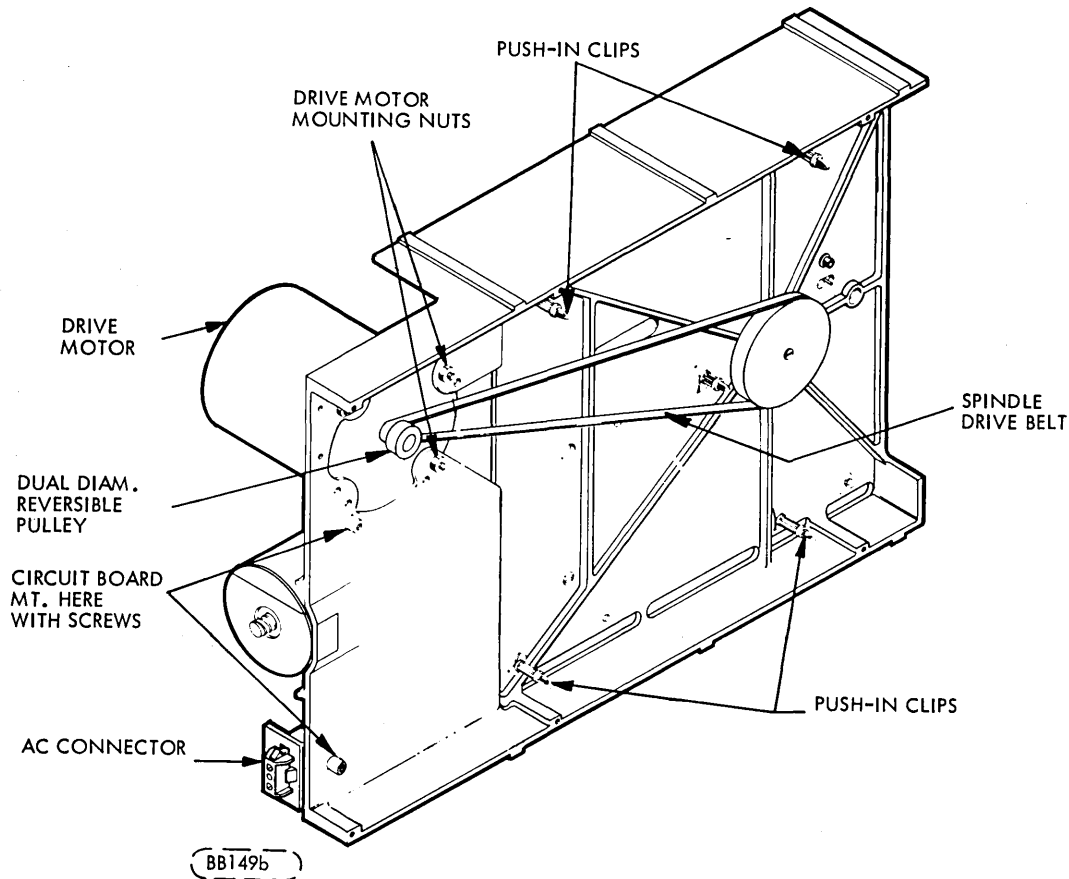

Figure 6-12. Base Casting Assembly
- c. Remove two screws from printed circuit board adjacent to connector J1 (Figure 6-12).
- d. Remove PWA by detaching it from the four push-in clips shown in Figure 6-12.
- c. Remove AC connector from bracket. (Figure 6-12)
- d. Remove spindle drive belt (Figure 6-12)
- e. Remove three (3) nuts securing drive motor (Figure 6-12)
This procedure is to be used to convert the FDD unit from 60 Hz operation to 50 Hz operation or vice versa. This is accomplished by reversing the dual diameter reversible pulley on the spindle motor shaft (Figure 6-12) using the following steps: